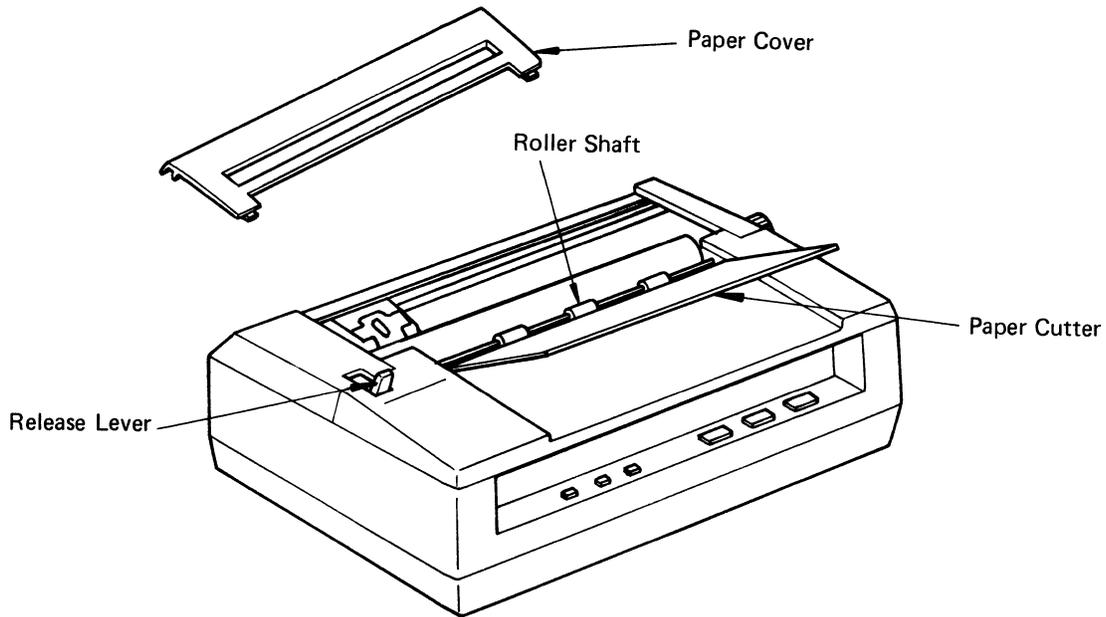

Fig. 6 Paper Insertion (1)
- (1) Remove the paper cover.
- (2) Open the paper cutter, and pull the roller shaft toward the front with your finger.
- (3) Pull the release lever toward the front. (See Fig. 6.)